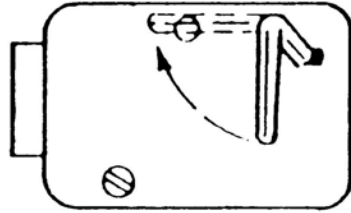

Figure 3. After entering the last number of the combination, turn the change key one-quarter turn clockwise and remove the key.
- c. Turn the dial to the **LEFT**, stopping when the third number is aligned with the changing index, the **SECOND** time. Holding the dial in this position, turn the change key back to the **RIGHT** and remove it (See Figure 3). The new combination you have chosen is now set in the lock.